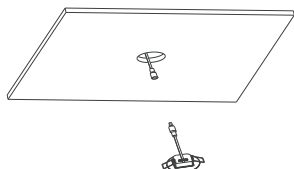

Figure 3-2
2. Cut a hole on the ceiling with 2 -2 3/8" diameter, wire the indicator cord to the inverter within the junction box (provided by others) and plug in the quick connector (Figure 3-2).